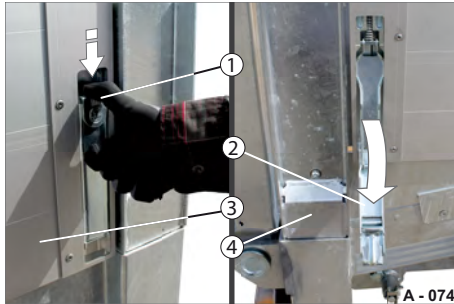

Fig. 115 Platform gate fastener unlocked
- Press the catch (Fig. 115/1) on the platform gate fastener (Fig. 115/2).
- Hold the platform gate (Fig. 115/3) firmly with one hand and unlock the platform gate fastener at the other end of the platform gate.
- Close the platform gate fastener (Fig. 115/2).
The catch (Fig. 115/1) engages.